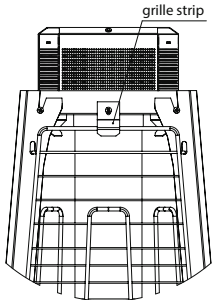

Fig.14a - Grille fastening
a) Secure the grille with a strap (Figure 14a);